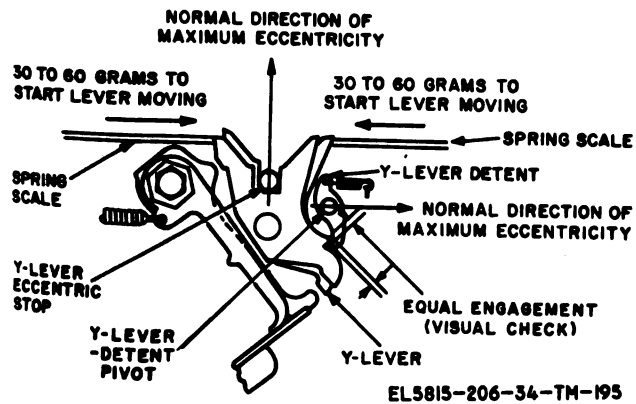

Figure 3-123. Y-lever detent and Y-lever adjustment (TT-4B/TG, TT-4C/TG, TT-335/TG, TT-537/G, TT-698A/TG, and TT-698B/TG ).
(fig. 3-123)
(1) Loosen the plain hexagonal nut (fig. 3-123) and turn the centering sleeve to meet requirement (a above).
(2) Replace a Y-lever-detent spring which does not meet the tension requirement (para 3-163). If the